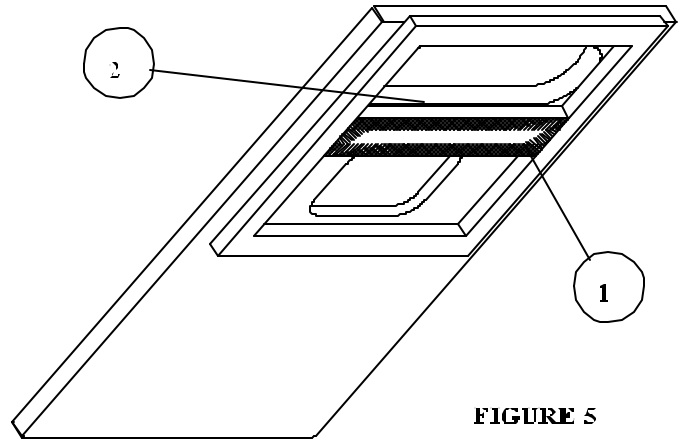

FIGURE 5
3. Install foam basepan pad at this time. See Figure 5. Pad is provided with adhesive on one side with release paper.